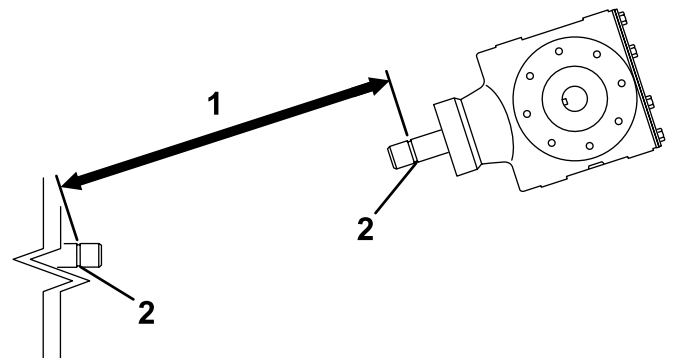
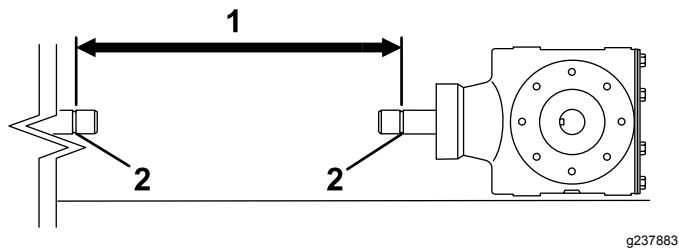
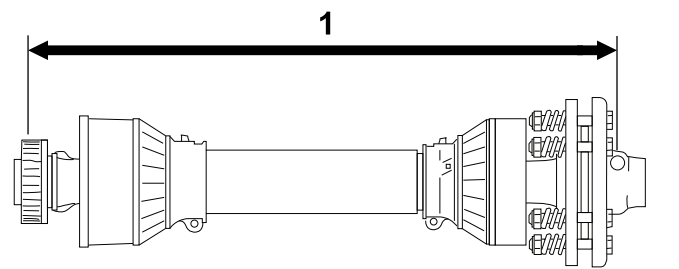

Figure 12
Figure 14
Figure 15
3. Measure the distance from the locking groove at the end of the traction unit PTO shaft to the locking groove at the aerator gearbox shaft (Figure 12).
5. Measure the distance from the locking groove at the end of the traction unit PTO shaft to the locking groove at the aerator gearbox shaft (Figure 14).
6. Measure the distance from the center of locking pin ball at the end of the PTO shaft to the center of the locking pin on the other end (Figure 15).
7. Using the smaller of the 2 measurements in Figure 14 and Figure 12, subtract that distance from the distance in Figure 15. Example: 81 cm (32 inches) minus 67 cm (26-1/2 inches) equals 14 cm (5-1/2 inches).